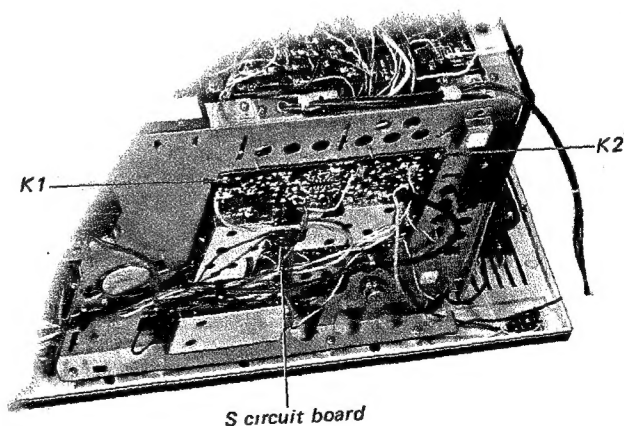

Fig. 2-14.
2. Remove the two screws labeled K1 ~ K2 in Fig. 2-14.